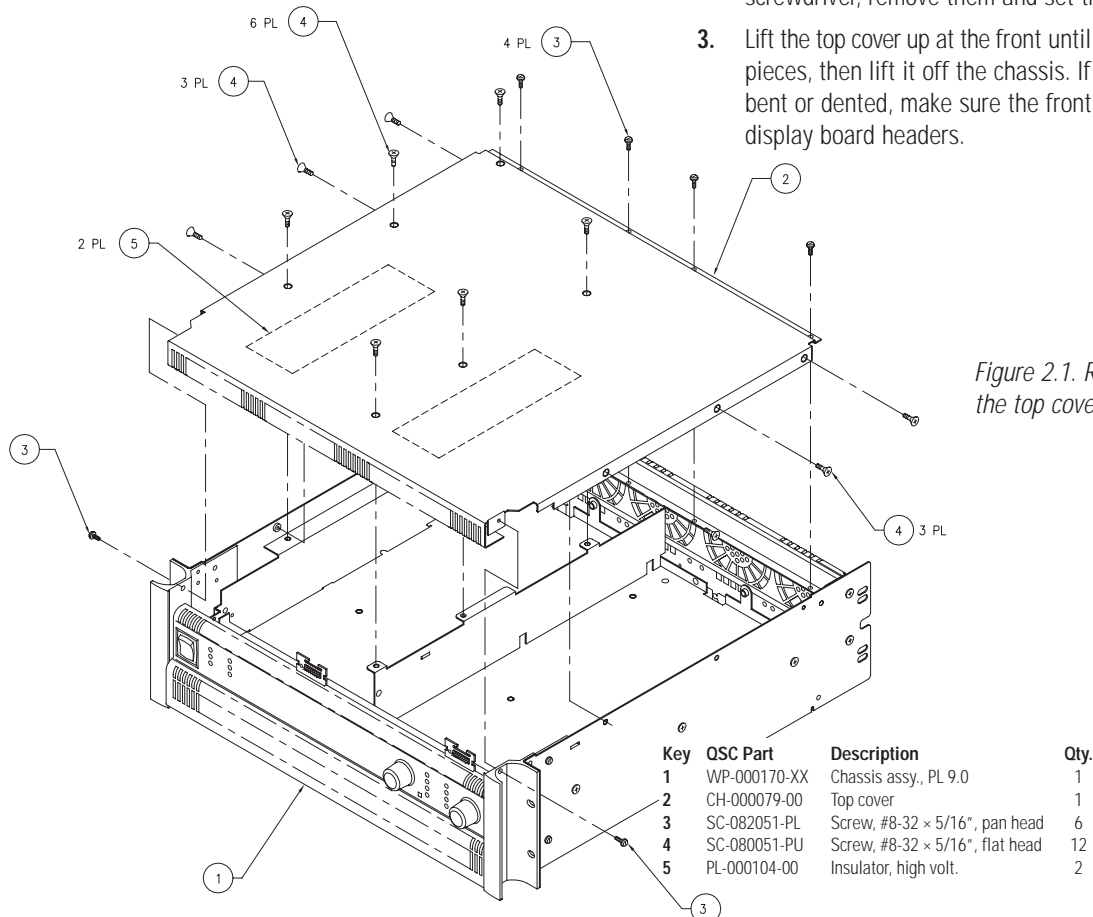

Figure 2.1. Removing or installing the top cover.
2. A total of 18 screws—six with pan heads and twelve with flat heads—hold the top cover to the chassis. Using a Philips screwdriver, remove them and set them aside. See Figure 2.1.